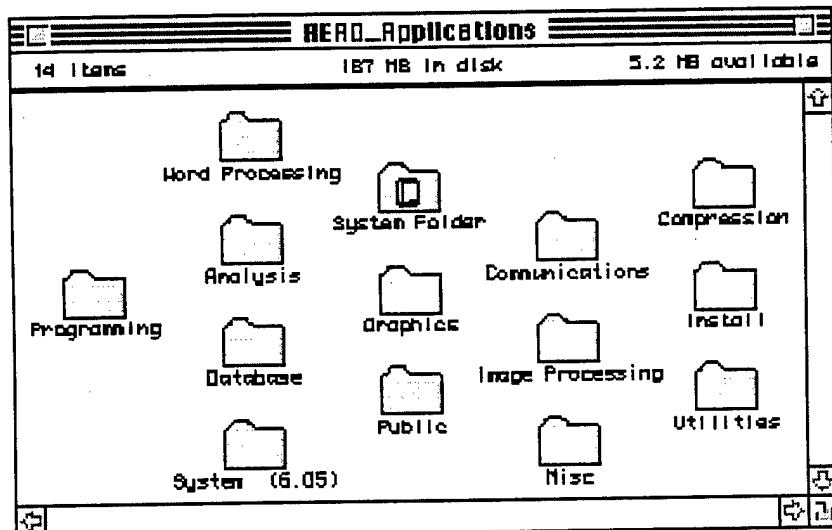

Figure 2.3: Contents of Aero_Applications
clicking. The colors in the icon will now be inverted in appearance, or highlighted. If the window is already open, close it by clicking the “close box” in the top left title bar for the window shown in Figure 2.3.
3. With the mouse still depressed, choose **Open** from the list of commands by *dragging* the pointer down the list and releasing the button when the **Open** command appears as inverse video. The Aero_Applications Icon will open, displaying the contents of the hard disk (See Figure 2.3).